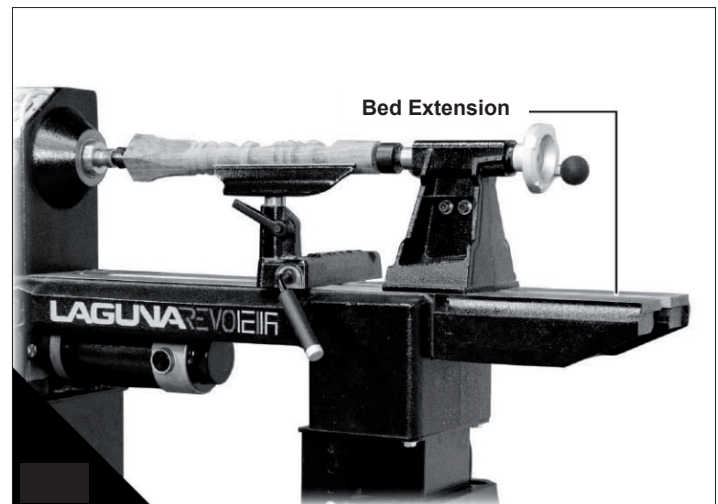

Fig. 20
4. Reattach toolrest and tailstock. Position the tailstock so that half rests on the bed and half rests on the extension (Fig. 20). Align the extension and the bed, then tighten the screws.